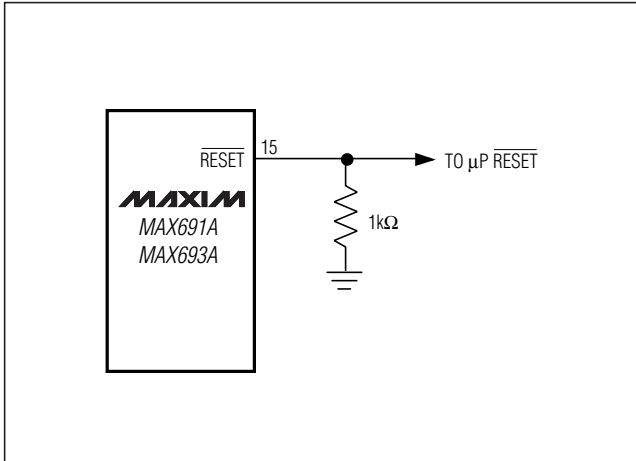

Figure 1. Adding an external pull-down resistor ensures  $\overline{\text{RESET}}$  is valid with  $V_{CC}$  down to GND.
guaranteed to be valid down to VCC = 1V, and an external 10kΩ pulldown resistor on RESET insures that it will be valid with VCC down to GND (Figure 1). As VCC goes below 1V, the gate drive to the RESET output switch reduces accordingly, increasing the RDS(ON) and the saturation voltage. The 10kΩ pulldown resistor insures the parallel combination of switch plus resistor is around 10kΩ and the output saturation voltage is below 0.4V while sinking 40μA. When using a 10kΩ external pulldown resistor, the high state for RESET output with VCC = 4.75V will be 4.5V typical. For battery voltages ≥ 2V connected to VBATT, RESET and RESET remain valid for VCC from 0V to 5.5V.